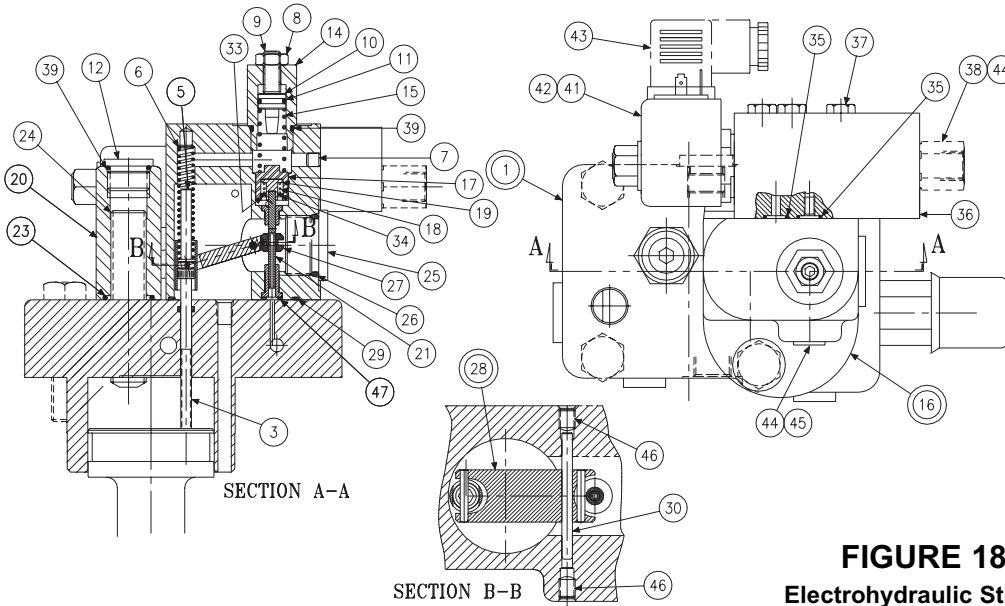
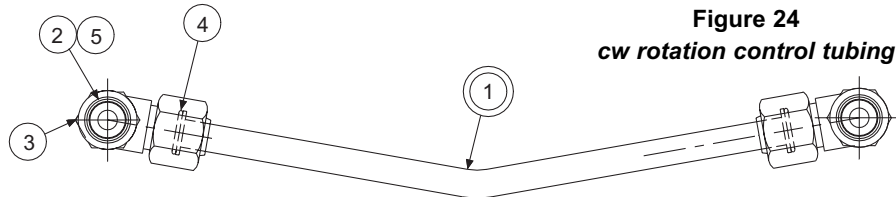

FIGURE 18
Figure 24
PARTS LIST FOR FIGURE 18
1. See Figure 18. Remove 3 screws (37) holding block (36) to body (16).
2. Remove 2 screws holding body (16) to cap assembly (1).
3. Remove all parts from body (16) except pin (30) and arm assembly (28). It is not necessary to remove these parts unless broken or worn. Examine parts for wear or damage.
4. Remove screw (3). Examine head for excessive wear, and body for smooth sealing surface with O-ring.
2. Install spool (6) into bore as shown. Install spring (11) over end of spool.
3. Install O-ring (8) on spring retainer (7). Install retainer (7), screw (13), and nut (14) in plug (4).
4. Install O-rings (10) and (15) on plug (4). Install plugs (4) and (12) in body (1). Install .047", 1,19 mm orifice (19), and .071", 1,98 mm orifice, (20) and plugs (2) and (17). Torque plugs. Install O-ring (21) in cap.
5. Turn screw (13) in until spring retainer (7) contacts spring (11). Turn an additional 1-1/2 turns and lock in position.
8. See Figure 18. Apply thread locking compound on threads of screw (3), lubricate the shank, thread through the cap into the control piston, and torque to 5 lb.*ft., 6.78 N*m.
9. Install minimum stop screw (24) and turn clockwise to stroke pump to full volume. Measure height from control cap to top of screw (3). With control piston at full displacement, dimension must be .74 +/- .03 in., 18,8 +/- 0,76 mm. Back out minimum stop screw (24) till there is no contact with control piston.
10. Press dowel (30) into body (16), through the link (28), to 1/4, 6,35 mm below surface, apply hydraulic sealant to threads of screws (46) and install over dowel (30).
11. Press spool (21) into retainer (19). Caution: do not use excessive force. Place spool/retainer assembly into spool (17) with spring (18) and washer (34). Secure with retaining ring (33).
12. While sleeve (27) is engaged into dowel on link (28), slide above spool assembly into bore of body (16), and through sleeve (27). Spool (21) must move freely and easily at all positions of the link (28).
13. Install proportional valve (41) in block. Torque to 20 ft.*lbs., 27 N m.
15. Assemble all other components into body (16) per above drawing. Torque the plug (12).
16. While spring retainer is engaging clevis pin (5) under dowel of link (28), slide the other opening of spring retainer over the top of the screw (3). Attach body assembly (16) to cap (1) with two screws and torque to 75 lb.*ft., 102 N m.
17. Install tubing assembly (Figure 24, 25).
Ref. Figure 18
PARTS LIST FOR FIGURE 24